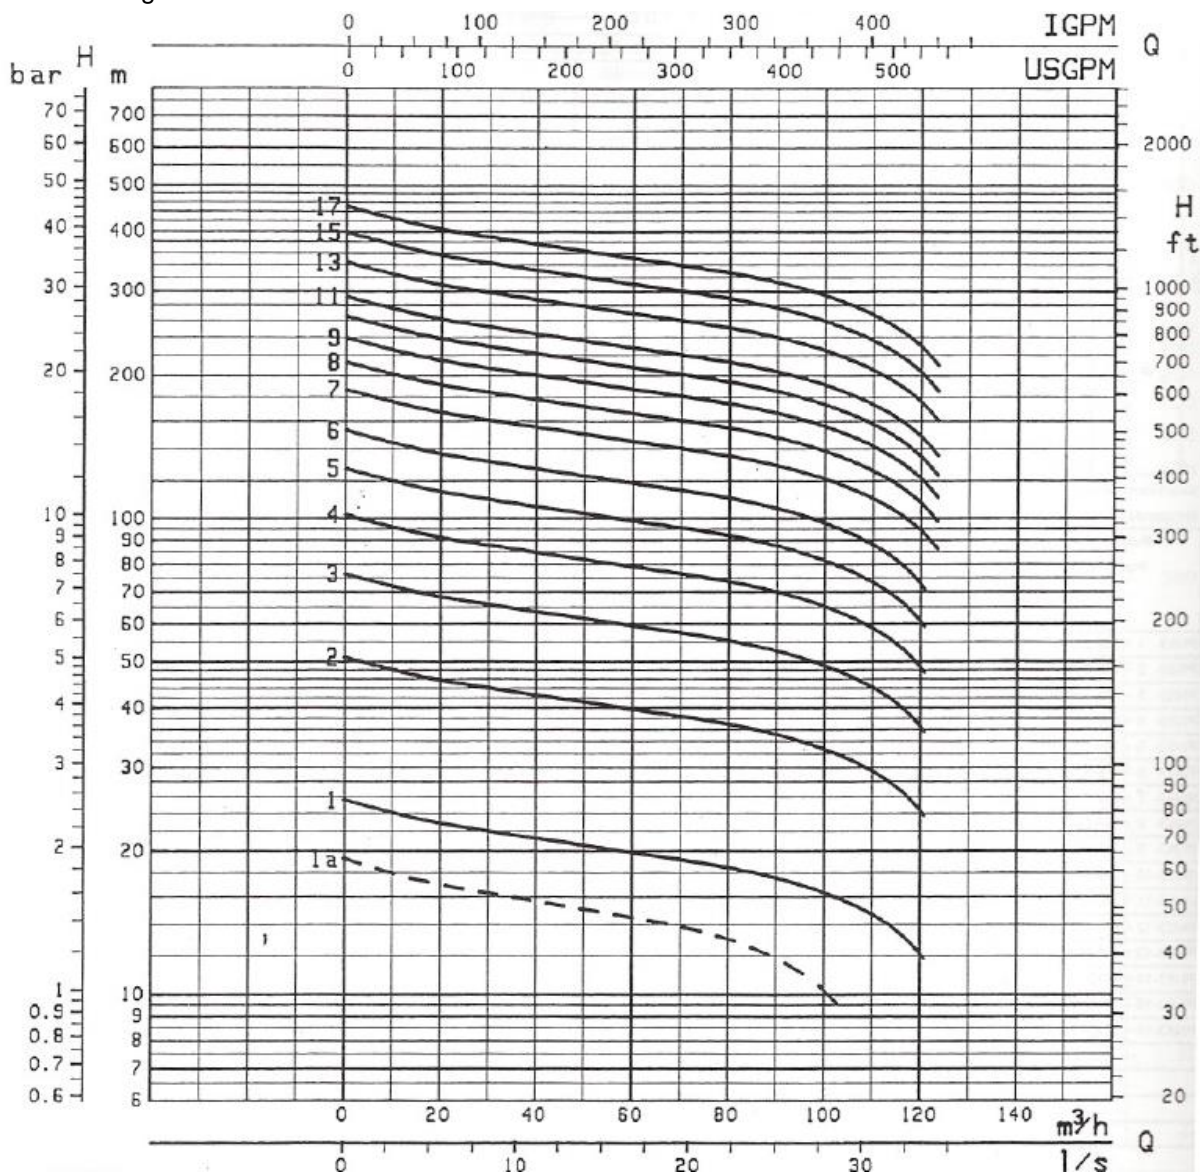

Figure 4-113
Use the manufacturer's data in Figure 4-113 for the pump. From the pump curve supplied read off the pressure and resulting flow for several points along the 6 stage curve. In IRRICAD databases, select the Utilities menu, the **Curve Fit** option and the Pumps option. Enter at least three sets of data into the curve fitting utility for pumps (ensure the units above each column match the units you are using from the graph). Click the **Fit Curve** button. The curve fitting generates three numbers to use in the database (coefficients of a quadratic). This produces numbers A, B and C that IRRICAD uses in the pump formula to calculate the pressure the pump will produce based on the flow. The pressure
2. Click on the Pumps component group tab and click the **[Add Pump]** icon or select *Component/Add Item*. Enter the “Usage” (Y), “Description”, “Warehouse Code”, “Connection Types” (use **PUMP F S** so it easy to identify in the reports) and “Diameters”.
3. If you cannot see the Curve Fit bar on the right-hand side select *View/Curve Fit*. Ensure the units match the units you are reading off the graph in Figure 4-113. Enter at least 3 sets of points from the curve, particularly around the area you wish to operate the pump in the design.